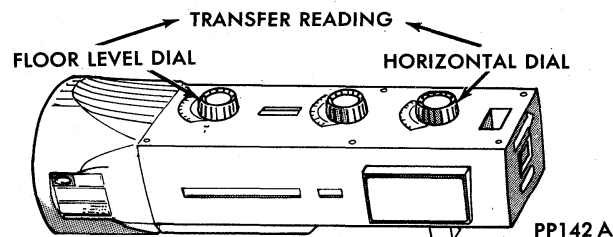

Fig. 3—Floor Level Compensating Adjustment
(5) Transfer plus or minus reading indicated on horizontal dial to floor level offset dial on each aimer. Press floor level dial inward to set reading (Fig. 3).
(6) Remove calibration fixtures from both units.
(7) Adjust horizontal dial knob on each aimer until split image targets align. If aimer horizontal dial pointers read between 1 left and 1 right, the aimers are within allowable tolerance limits. Re-calibrate units if beyond these limits (Fig. 3).
(1) Set horizontal dial to zero (Fig. 3).
(2) Check to see that the split image target lines are visible in the viewing port. If necessary, rotate each